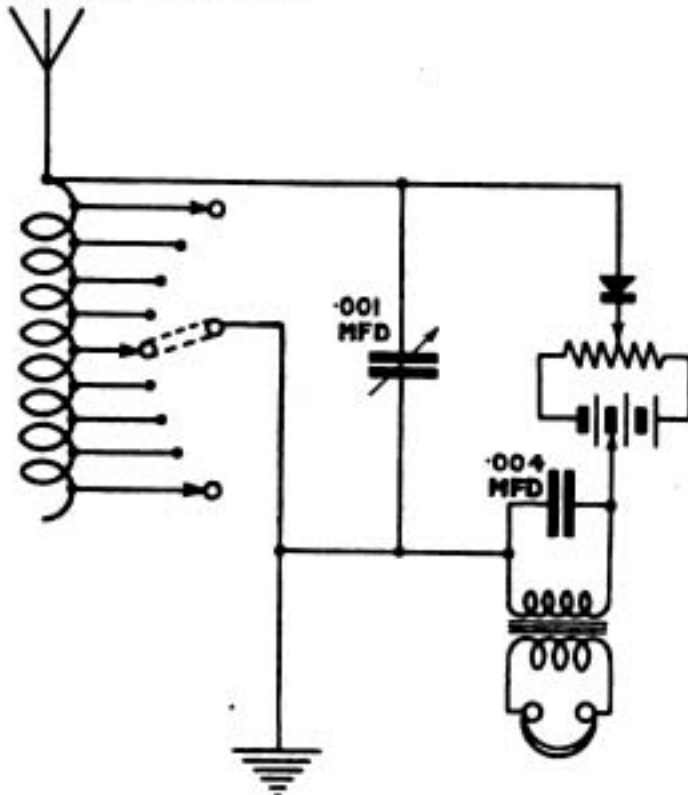

Fig. 2.
CIRCUIT (Glenageary) asks (1) *If, to save expense, the tuning inductance, as described in the "Wireless World," December, 1919, could be wound with No. 26 enamelled copper wire instead of No. 26 D.W.S. wire, and if it would work as well.* (2) *If circuit (Fig. 2.) is good.*